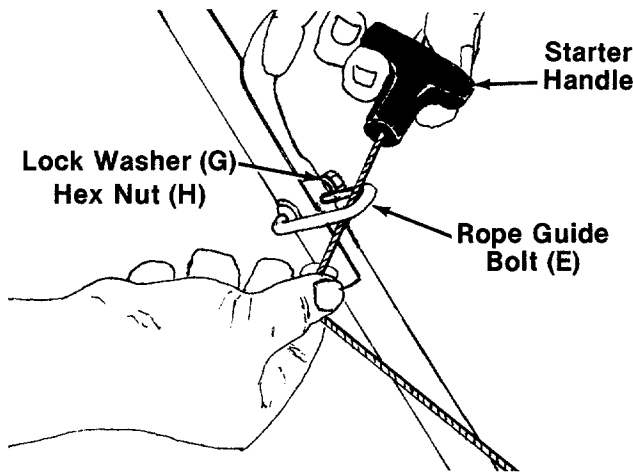

FIGURE 4.
- Insert the rope guide bolt (E) through the right hand side of upper and lower handle.
- Slip the starter rope into the rope guide bolt as shown in figure 4. Secure the rope guide bolt with lock washer (G) and hex nut (H). If more slack is needed in the starter rope, disconnect and ground the spark plug wire. Depress the blade control handle and pull additional rope out from the engine.